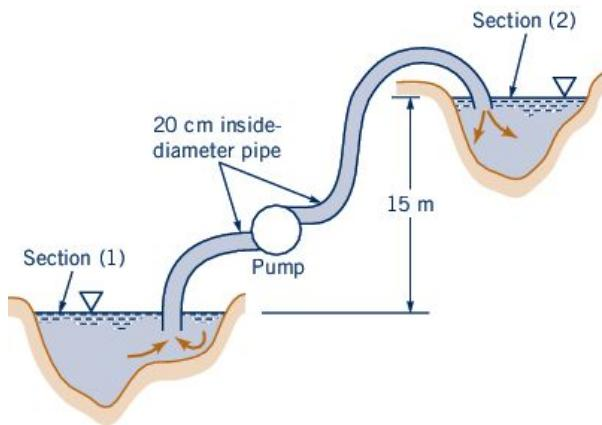

Figure 6: See problem 6.
Water is to be moved from one large reservoir to another at a higher elevation as indicated in Figure 6. The loss of available energy associated with  $Q = 0.07\text{ m}^3/\text{s}$  pumped from section (1) to (2) is loss  $l = (61\bar{v}^2/2)\text{ m}^2/\text{s}^2$ , where  $\bar{v}$  is the average velocity of water in the  $20\text{ cm}$  inside diameter piping involved.